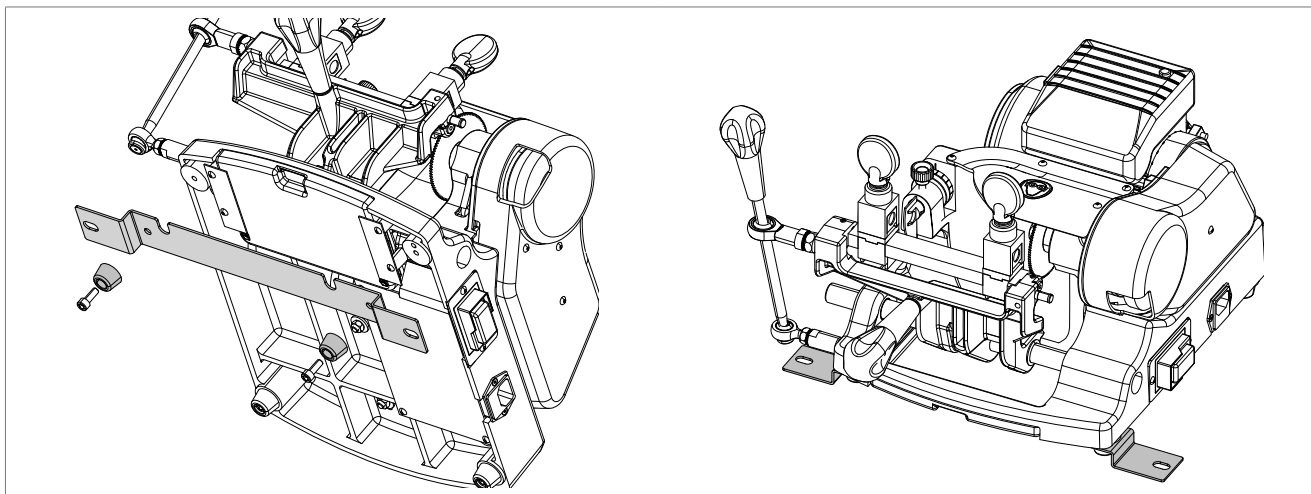

Fig. 13
- 3) Place the bracket as indicated in Fig. 13.